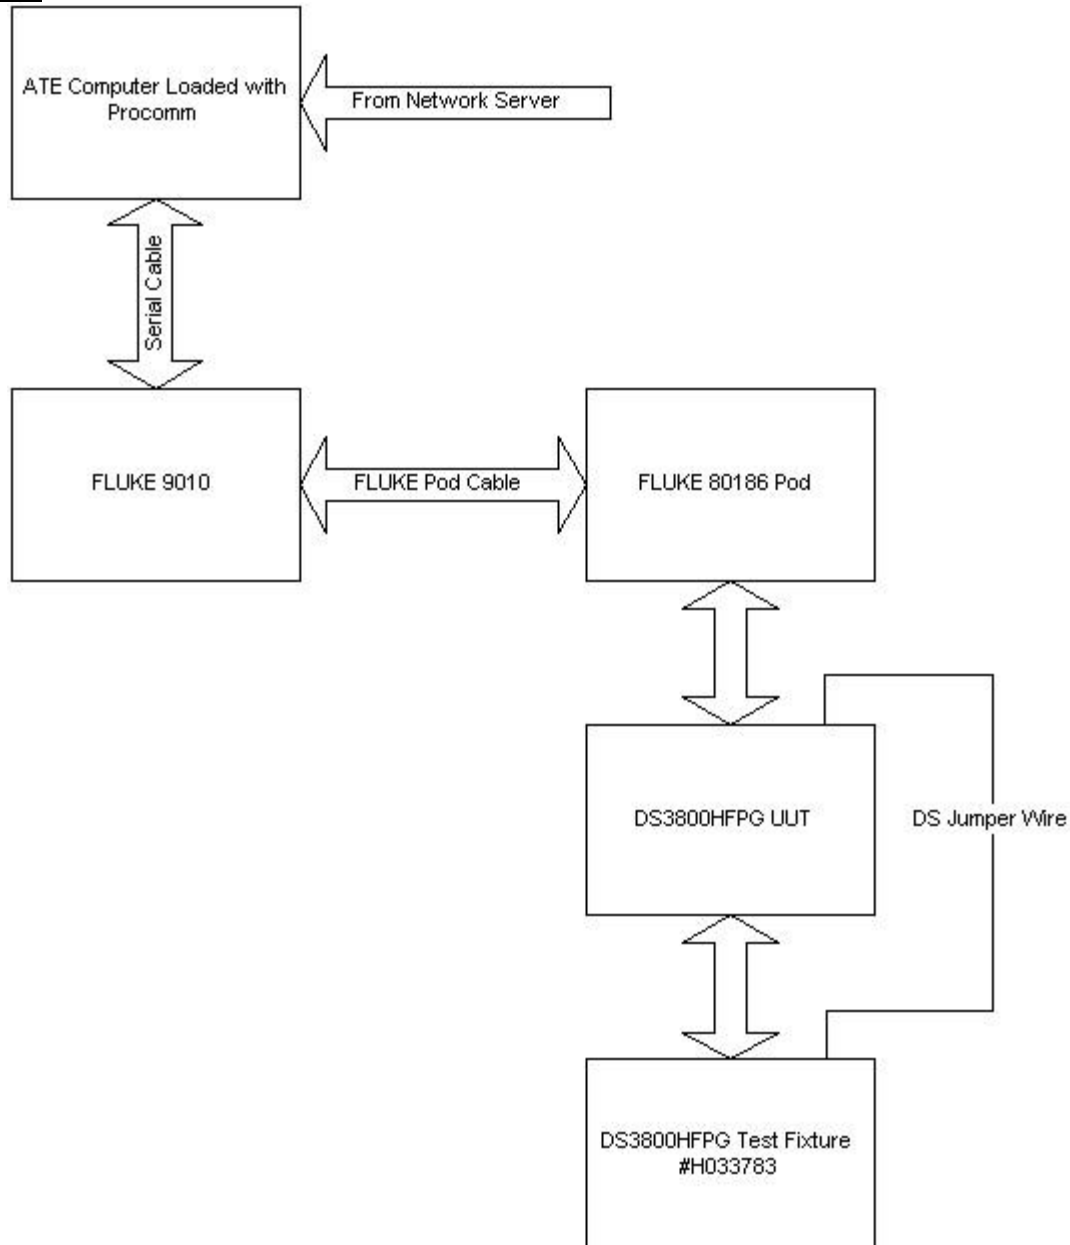

Figure 1
- 6.1.1.2 Connect the required equipment as outlined in Figure 1.